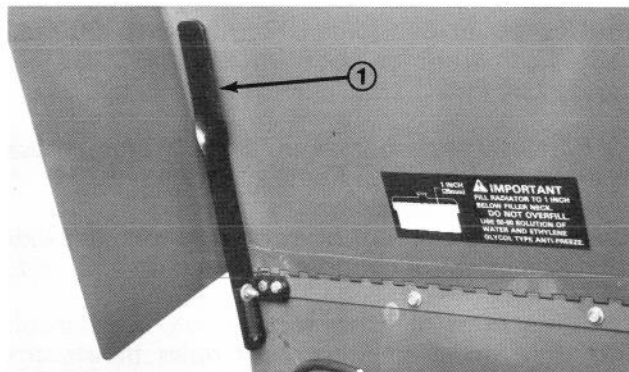

Figure 16
3. Slide bottom of hood prop (Fig. 16) out of retaining bracket. Lower hood prop, pivot upward, then downward to prop up hood.